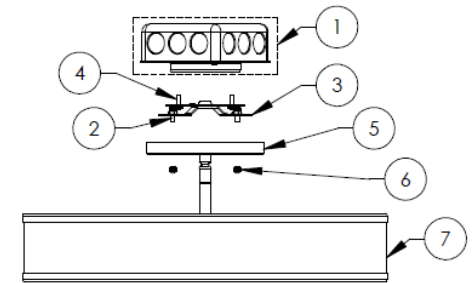

Fig 1
- Attach two 1/2" screws (2) with nuts to farthest points of the mounting strap (3) as shown in Fig 1. Secure mounting strap (3) to junction box (1) (not supplied) with 1" screws provided (4).
- This unit may not operate properly unless connected to a grounded electrical circuit. Electrical shock, over heating, low or no light output, and shortened lamp life can result if proper grounding is not done. Securely connect the green wire from the canopy (5) of the fixture to the in-coming green (earth) ground wire.
- Using wire connectors provided, connect white supply wire to the white wire from the fixture. Connect black hot supply wire to black wire from the fixture. **Do not mix wires.** Make sure connections are secure and tucked carefully into the junction box (1).
- For none-dimming fixture.** Fixture will operate normally w/o connection to any dimmers. Connect white fixture lead to white (N) wire from supply power source. Connect black fixture lead to black (L) wire from supply power source. Gray and purple wires are not to be used and must be individually capped to prevent shorting. **Skip Step D.**
- For (0-10V) dimming fixture.** Connect gray wire from the fixture to the dimmer source gray wire. Connect purple wire from the fixture to the dimmer source purple wire. Connect white fixture lead to white (N) wire from supply power source. Connect black fixture lead to black (L) wire from dimmer supply power source. **Skip Step C.**
- Line up holes in canopy (5) with screws (2) in mounting strap, slide canopy (5) up and secure with thumbnuts (6).